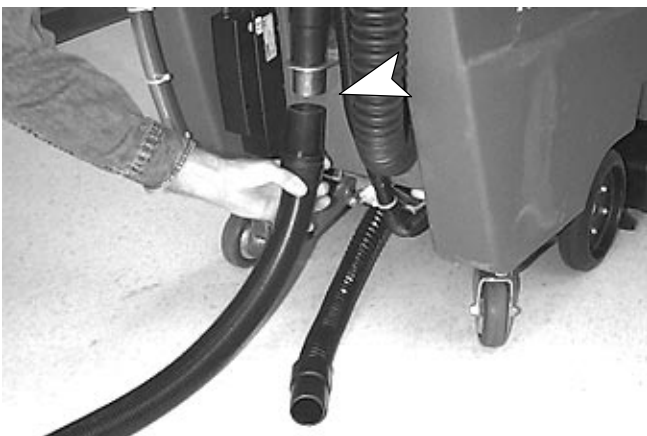

FIG. 10
3. Disconnect lower vacuum hose at rear of machine and replace with accessory vacuum hose (Figure 10).